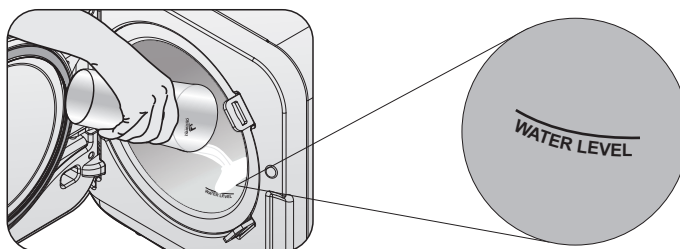

Fig.7
- b► Open the door of the autoclave, take out the trays and, using the cup, put the correct amount of distilled water directly inside the chamber (pressure vessel) before each cycle (Fig. 7), **until the water reaches the "water level" mark** (Fig. 7).